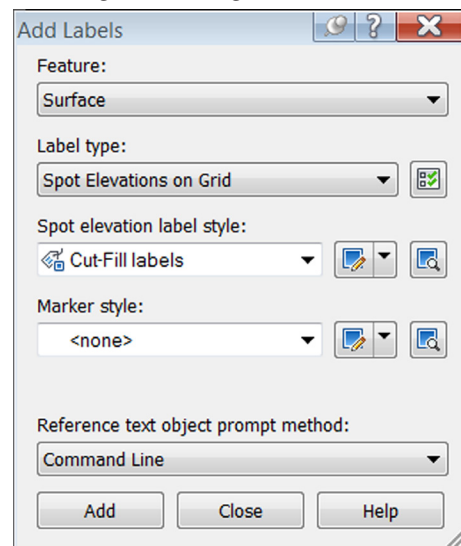

Figure 10: The Add Labels dialog box is a "one-stop-shop" to label most anything in Civil 3D.
**Step 1:** Select the Annotate tab on the Ribbon and click the Add Labels icon on the far left side to open the Add Labels dialog box (see Figure 10).
**Step 2:** Set the Feature to “Surface” and the Label Type to “Spot Elevations on Grid.” **Step 3:** Change the Label Style to Cut-Fill Labels and set the Marker Style to <none>. The marker is an optional “tick” that specifies where each measurement is taken. Since our labels will be centered over these points, the marker isn’t really necessary. **Step 4:** Compare your settings to the ones in Figure 10 and then click the Add button. **Step 5:** At the “Select a surface” prompt, click on the Volume Calcs surface. **Step 6:** When defining the grid, use the following settings.